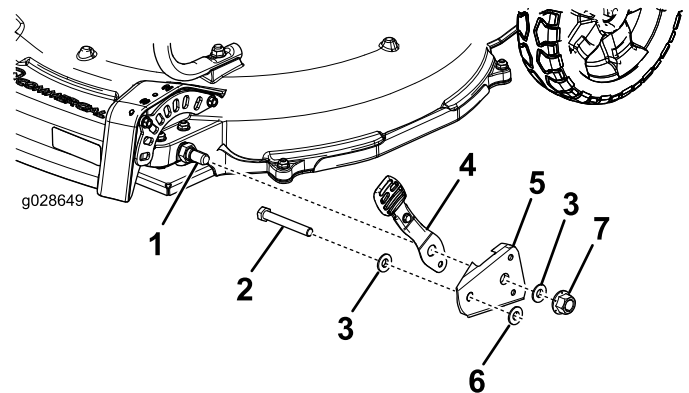

Figure 2
2. Remove the locknut that secures the spring arm and the front pivot arm to the machine (Figure 2).
3. Remove the wheel spacer, front pivot arm, spring arm, bolt (3/8 x 2-3/4 inches), and 2 Belleville washers (Figure 2).